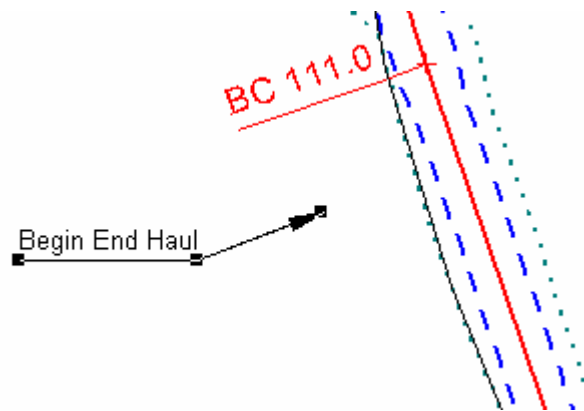

Figure 8.7: Floating Label
16. Adjust the label with the mouse until it looks similar to the Figure 8.7. Click and drag on the arrowhead handle to move the whole label.